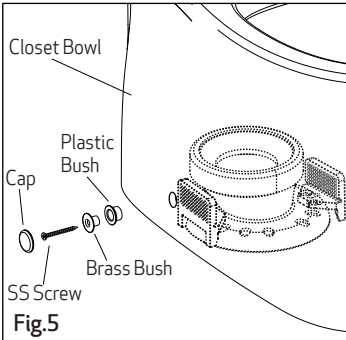

Fig.5
6. Insert the plastic and brass bushings into the bowl fixing holes as shown in Fig.5. Secure the bushings through the holes in fixing bracket with SS screws. Cover the holes with caps.